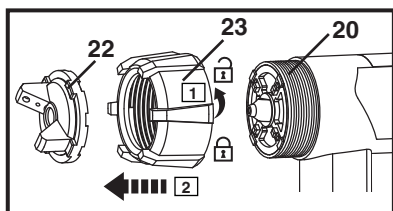

Fig. 14
- > Disassemble the spray head (20) by removing the O-ring (23) and the spray nozzle (22) (Fig. 14).